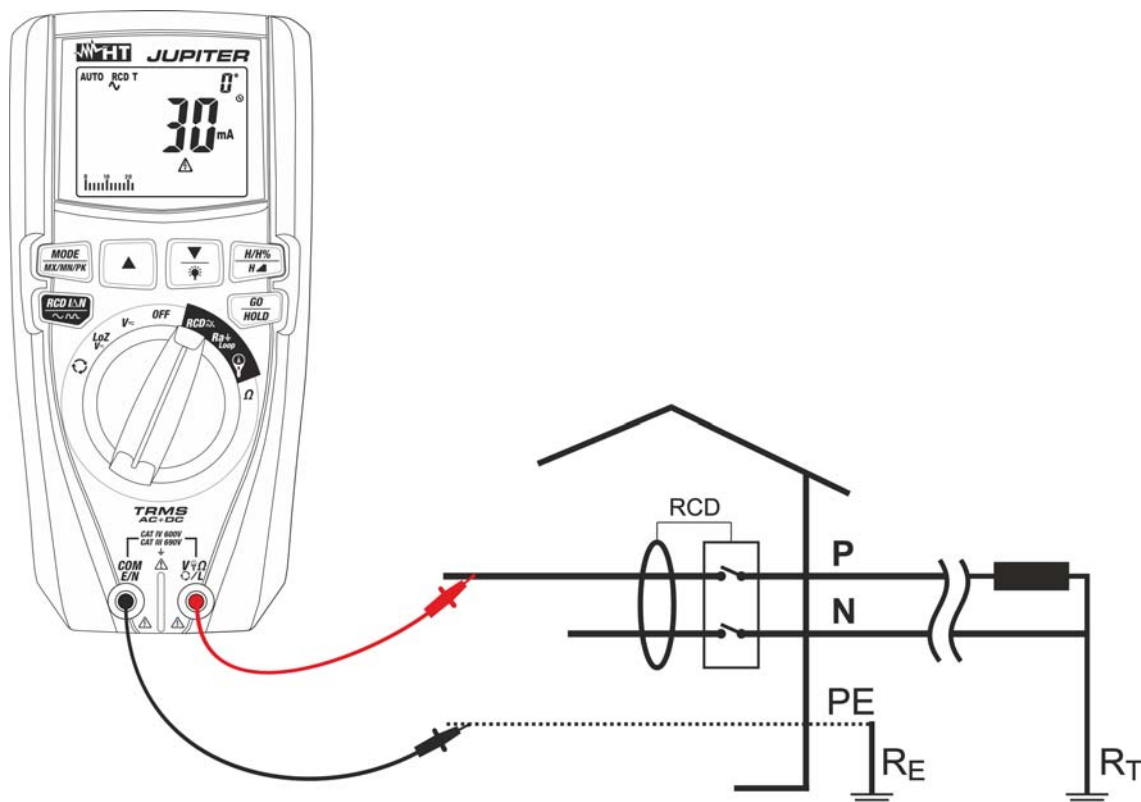
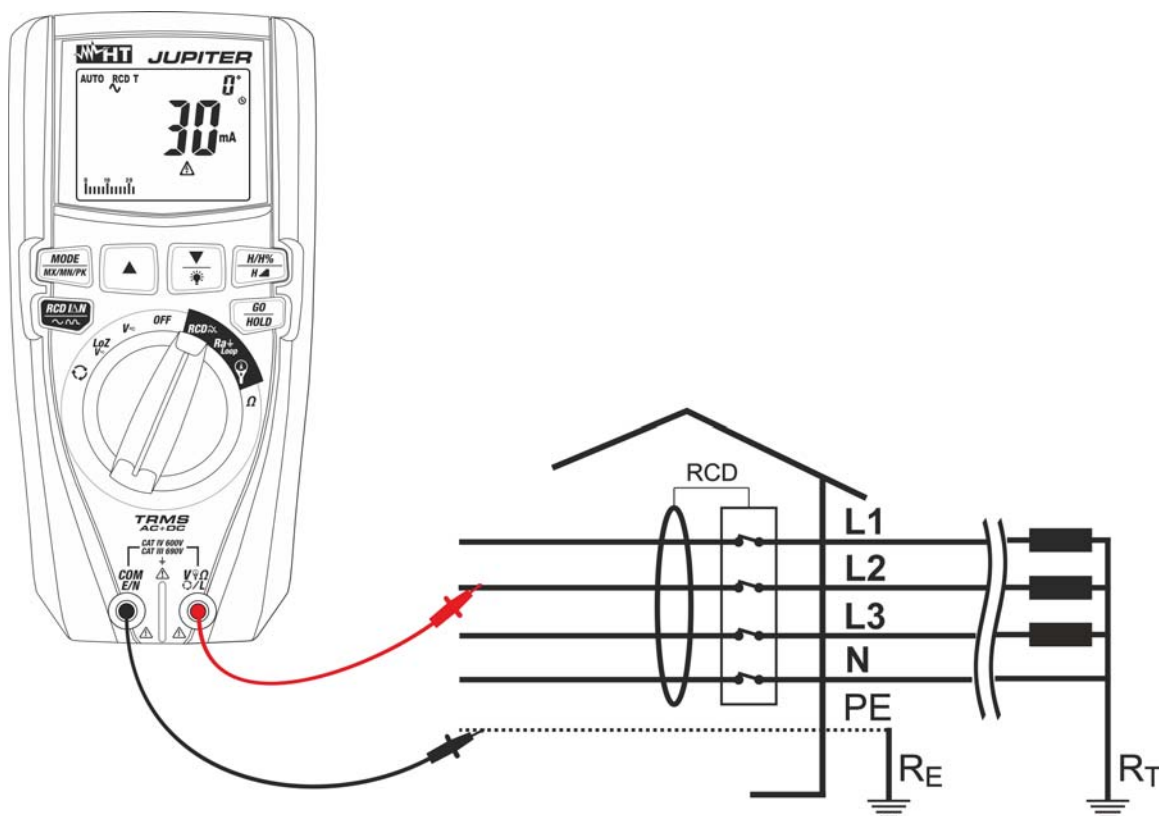

Fig. 30: Use of the instrument for RCD test on single-phase system with leads
Fig. 31: Use of the instrument for RCD test on three-phase system with leads
7. In case measuring leads are used, insert the red conductor into input terminal **V** and the black conductor into input terminal **COM/E/N** and connect the instrument to the system to be tested (see Fig. 30 or Fig. 31). The presence of phase-to-earth voltage is shown in the bargraph